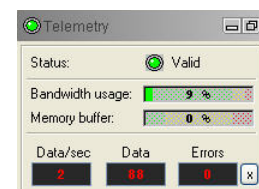

Figure 4-3 Telemetry panel
7. During logging observe the controls in the **Telemetry** panel (Figure 4-3):